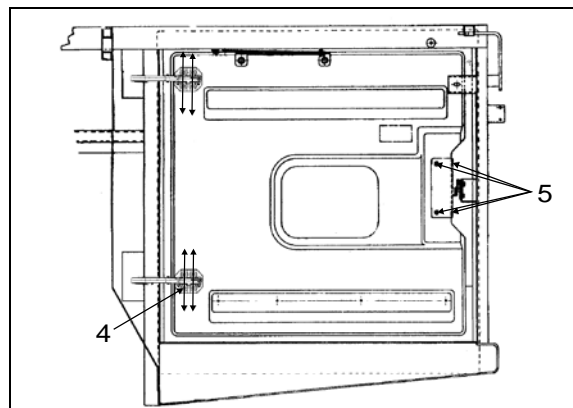

FIGURE 83: PORTE DU COMPARTIMENT MOTEUR18633_1
8. Desserrer les vis (4, Figure 83).